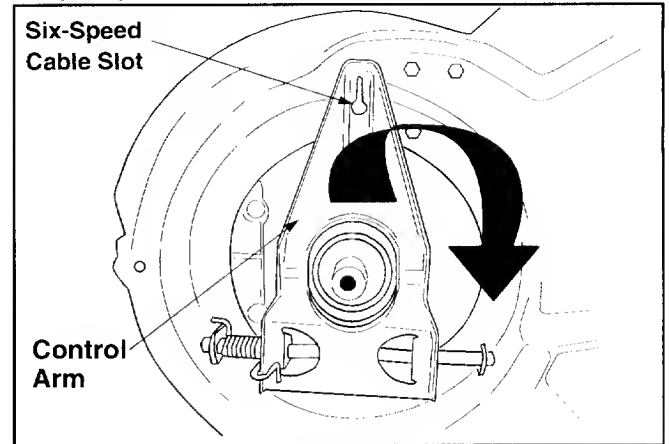

Figure 23
- Pivot the control arm back to its original position and reinstall the six-speed cable into the slot. See Figure 23.